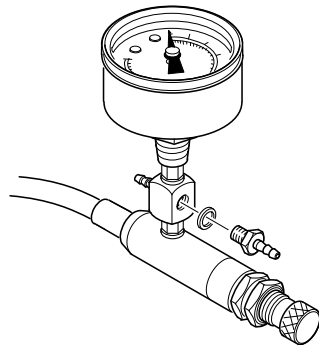

Figure 10: Water Regulator
- Locate the water regulator in the utility center (See Figure 10). Remove the plug from the extra port, and install a 1/16" barb fitting.